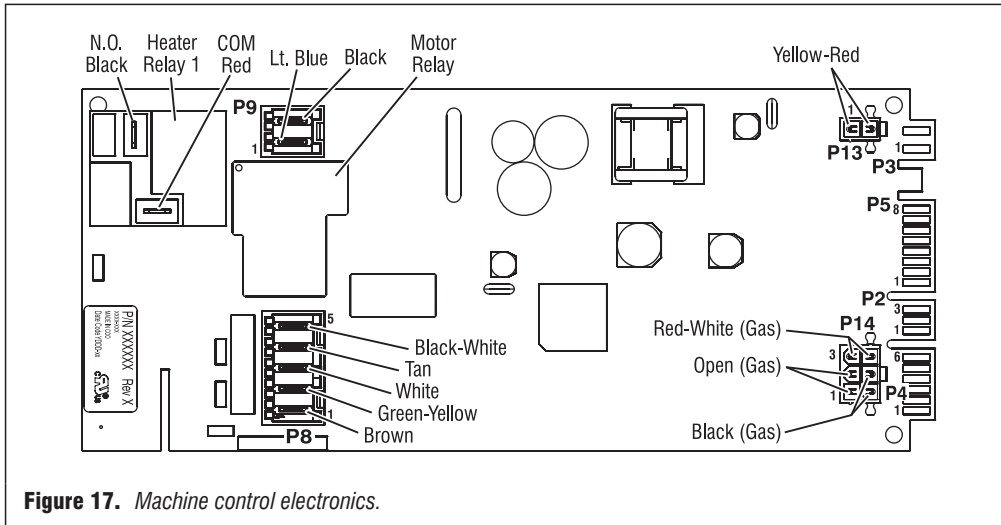

Figure 17. Machine control electronics.
3. Remove all the wire connections to the machine control electronics. See figure 17.